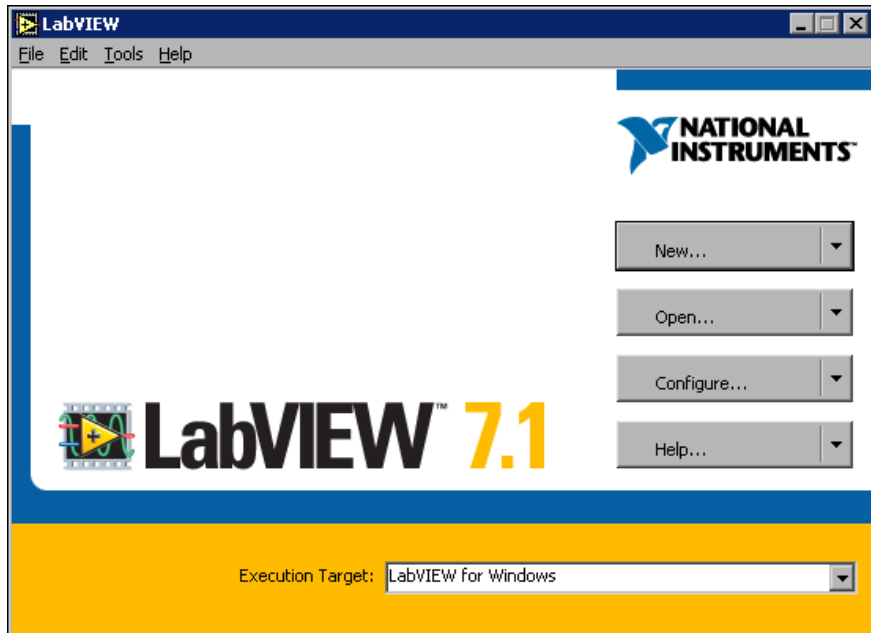

Figure 1. The **LabVIEW** Dialog Box
1. Launch LabVIEW to open the **LabVIEW** dialog box shown in Figure 1.